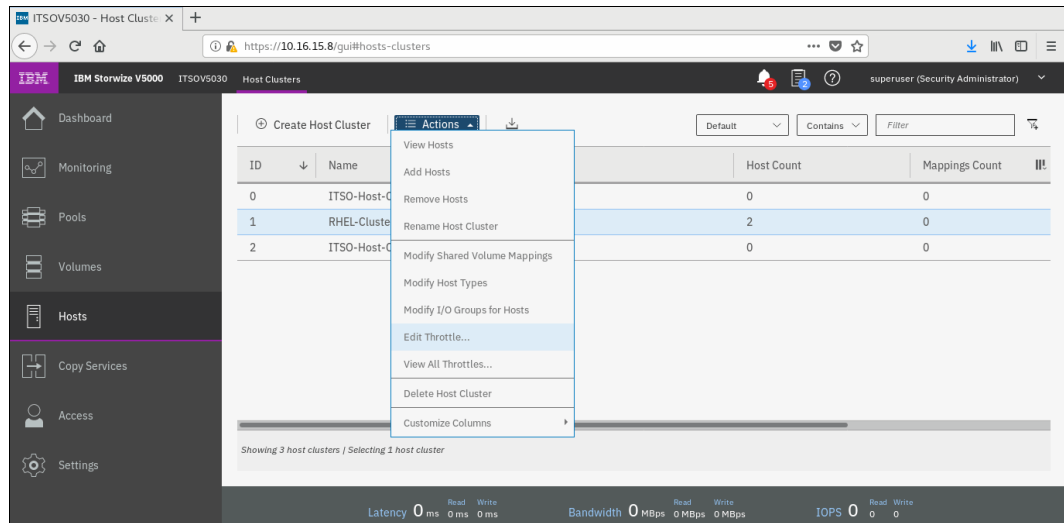

Figure 5-110 Selecting Edit Throttle option
2. Select the wanted host cluster. Click **Actions** → **Edit Throttle**, as shown in Figure 5-110.